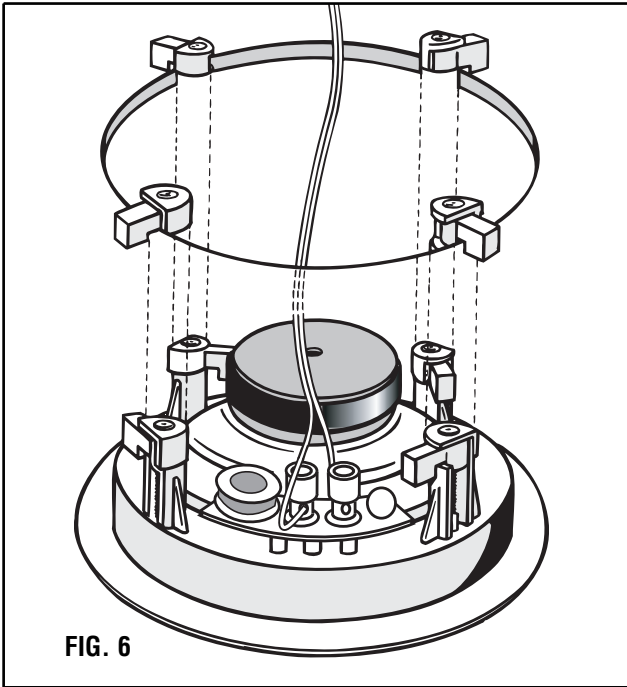

FIG. 6
6. See Fig. 6. With the speaker wire attached to the speaker, slide the speaker up inside the cut-out hole. Center the speaker in the cut-out hole and turn the four locking screws counterclockwise until the speaker is drawn up snugly to the wall board from behind, clamping the speaker in place. Try to tighten each screw equally. Replace the speaker grill by gently pressing it into place.